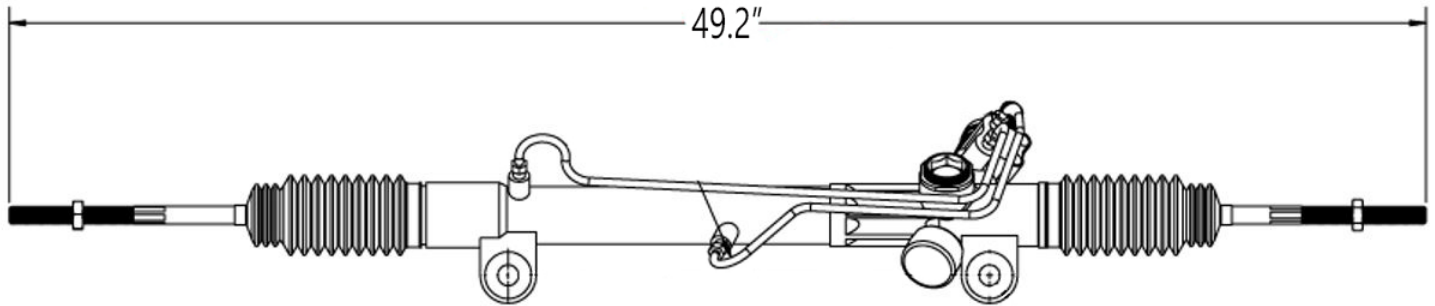

Figure 11
14. With anti-seize applied to the threads, thread the rod end into the lower control arm to the jam nut until approximately seven threads are showing between the jam nut and the rod end. **(Figure 11)** Leave the jam nuts loose until the arms are installed to allow alignment with the mounting bolts.
With the tie rods level, measure end-to-end as shown in **Figure 11**. If the overall length is greater than 49.2", cut the inner tie rod ends equally to get 49.2" overall length. Install the jam nuts onto the tie rods, then make the cuts with a metal hacksaw or a cut-off wheel. Once cut, clean the threads at the cut mark with a file, then unthread the jam nuts to clean them. Proceed with the remainder of the install.